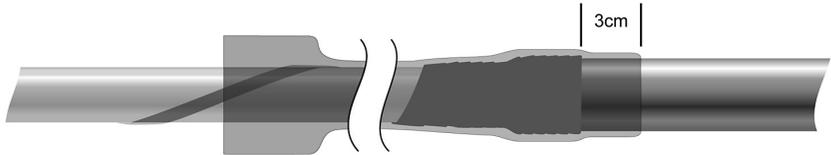

Figure 33.
13. Remove the plastic Mast Butt Adaptor section of the Terminal Base Assembly by unscrewing the M6 Phillips head screw on the side. Again, straighten the cable as much as possible and carefully slip the first 1.2m length of Heatshrink over the cable ensuring that the Semi-Conducting Tape is not effected, until the end of the Heatshrink tube covers and overlaps the Semi-Conductive Tape (over the Black PVC Outer Sheath) by 3cm (Figure 33). Using a Gas torch or heat gun, shrink the lower end into the correct position and gradually work up towards the top of the Heatshrink.